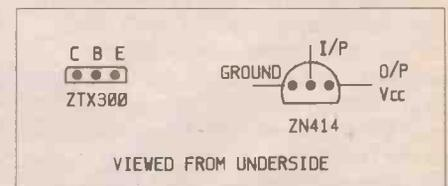

Figure 4. Pin-outs.
**Multi-Tune Generator.** In Figure 4, the pcb track has a small link missing, there should be a connection between C10 and R12 (ends closest to TR3). If you have an issue 3 pcb, this mod will be required. Issue 4 pcb's should have this problem corrected.
**Siren Sound Generator.** In Figure 4, the polarity sign shown on C2 should be on the other side, i.e. connected to R2 and Pin 3.
Full details, including photographs of the prototype PCB, are given even for what is quite a simple circuit so there should be no real chance of error! With resistors getting ever smaller and the colour bands on them becoming less distinct, the biggest headache is probably identifying the correct resistor. For the less than eagle-eyed a small magnifying glass can be very useful. The pin connections for the ZTX300 transistor and the ZN414 are given, viewed from the underside in each case; obviously it is important to ensure that these go in the right way round, see Figure 4.